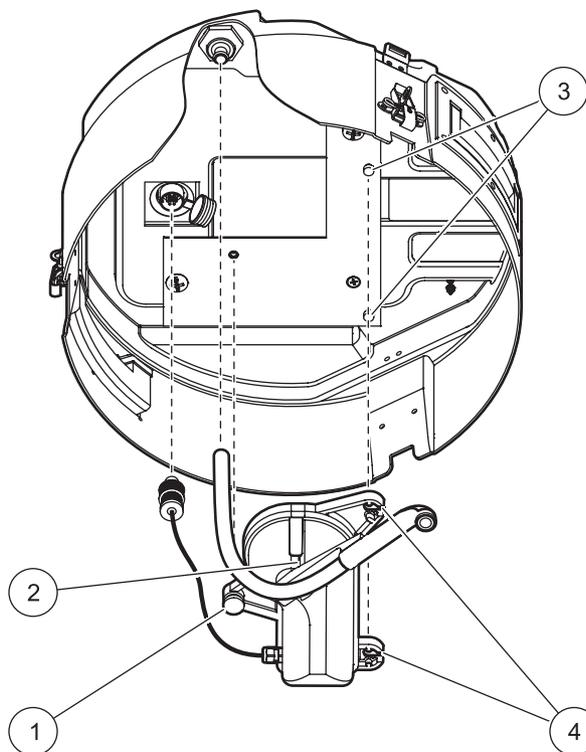

Figure 12 Distributor assembly installation
1. Slide the two slots in the distributor assembly housing under the retainer pins located on the top inside surface of the center section (Figure 12).
3. Push the distributor tubing on the sampler fitting on the top inside surface of the center section (Figure 12).